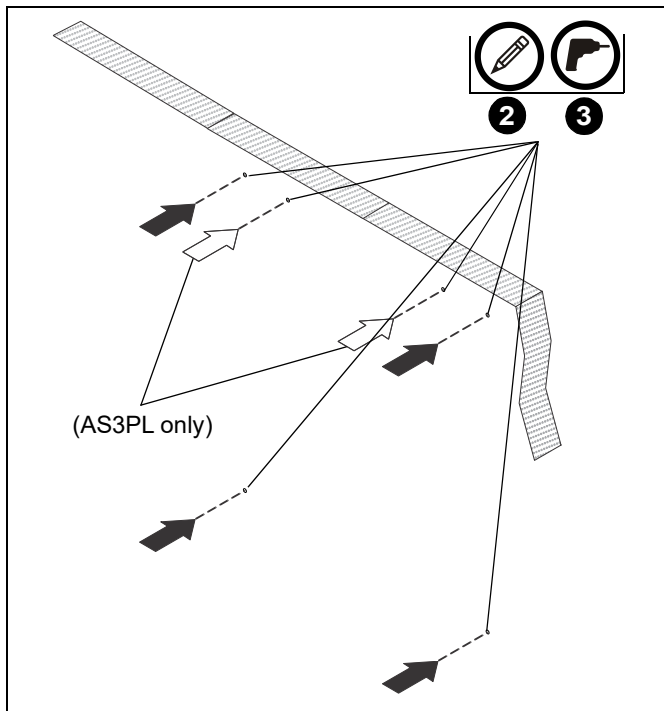

Figure 15
2. Using a level, mark the wall for four (AS3PM) or six (AS3PL) mounting hole locations in the end slots and middle slots of each rail shown in Figure 15. (See Figure 15)